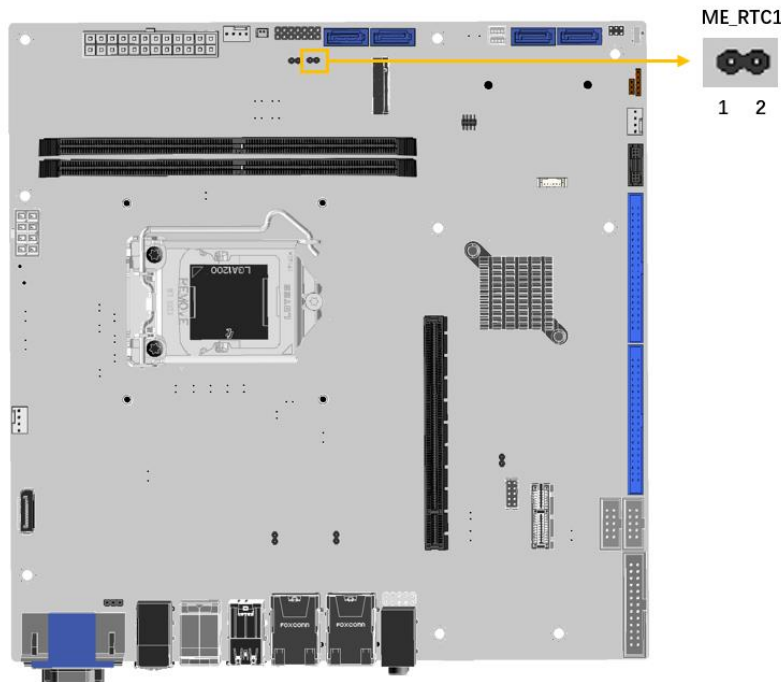

Figure 3-3: Clear ME Jumper Location
- CN Location:** See Figure 3-3